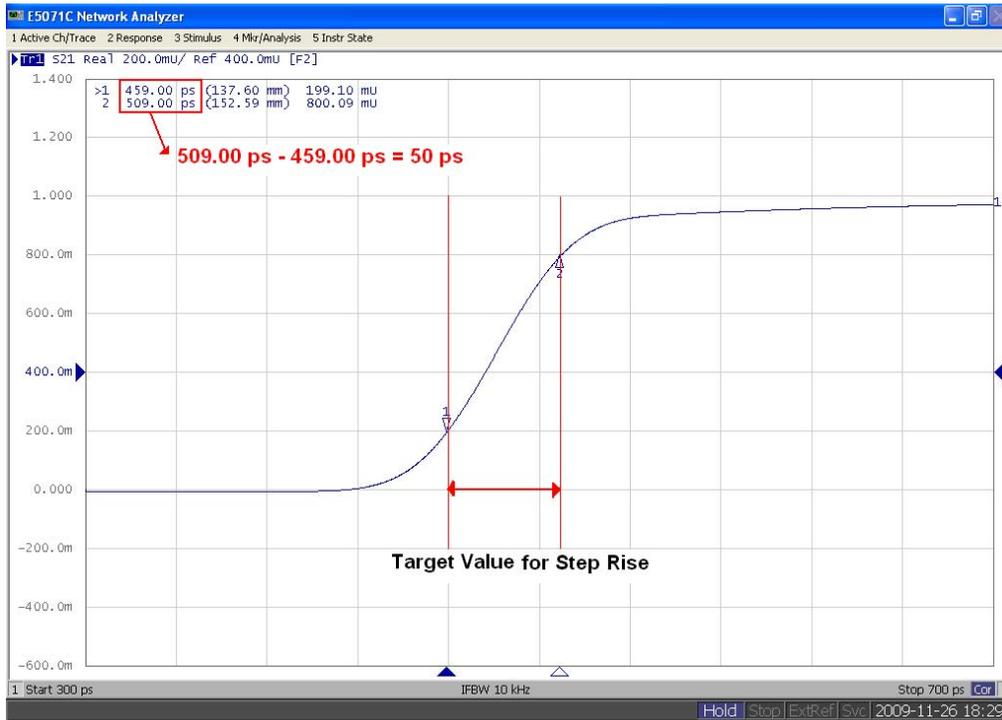

Figure 6-2 Step Rise Adjustment in higher resolution
8. Adjust the step rise close to the target step rise as Figure 6-2 Step Rise Adjustment in higher resolution.